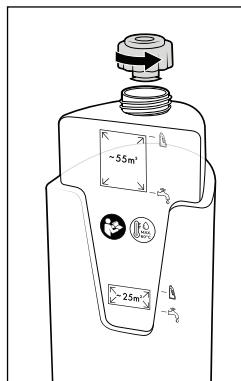

Fig. 7
- ♦ Flip the fresh water tank ⑪ over and unscrew the lid. (see fig. 7).